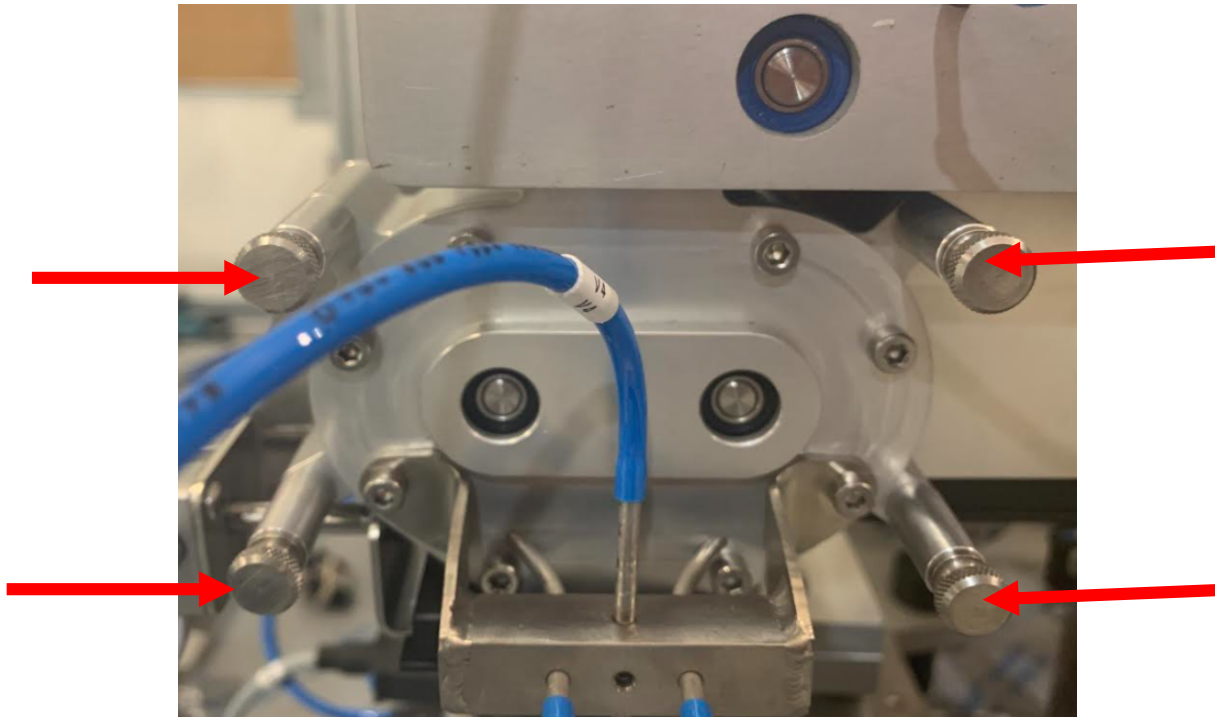

Figure 5-6 The dosing gear front cover
- 1- Unscrew all the four (4) screws as shown in Figure 5-6 to remove the front cover.